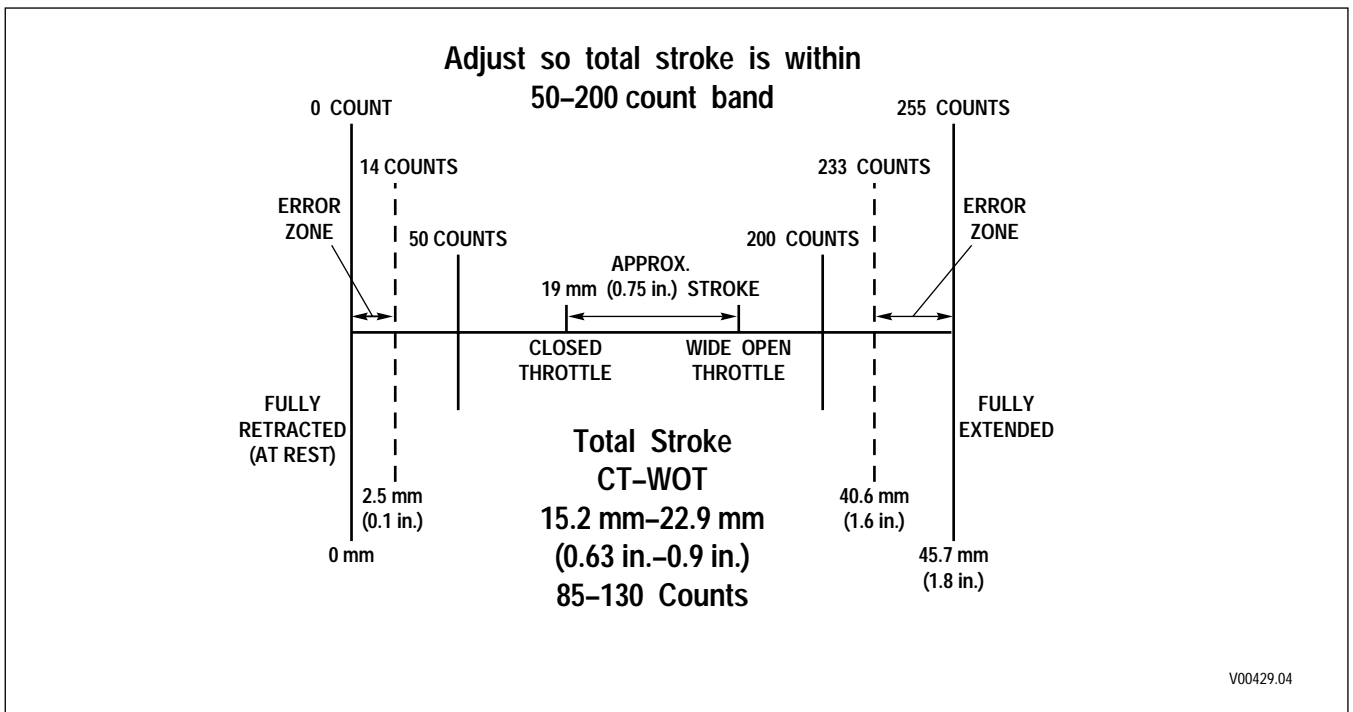
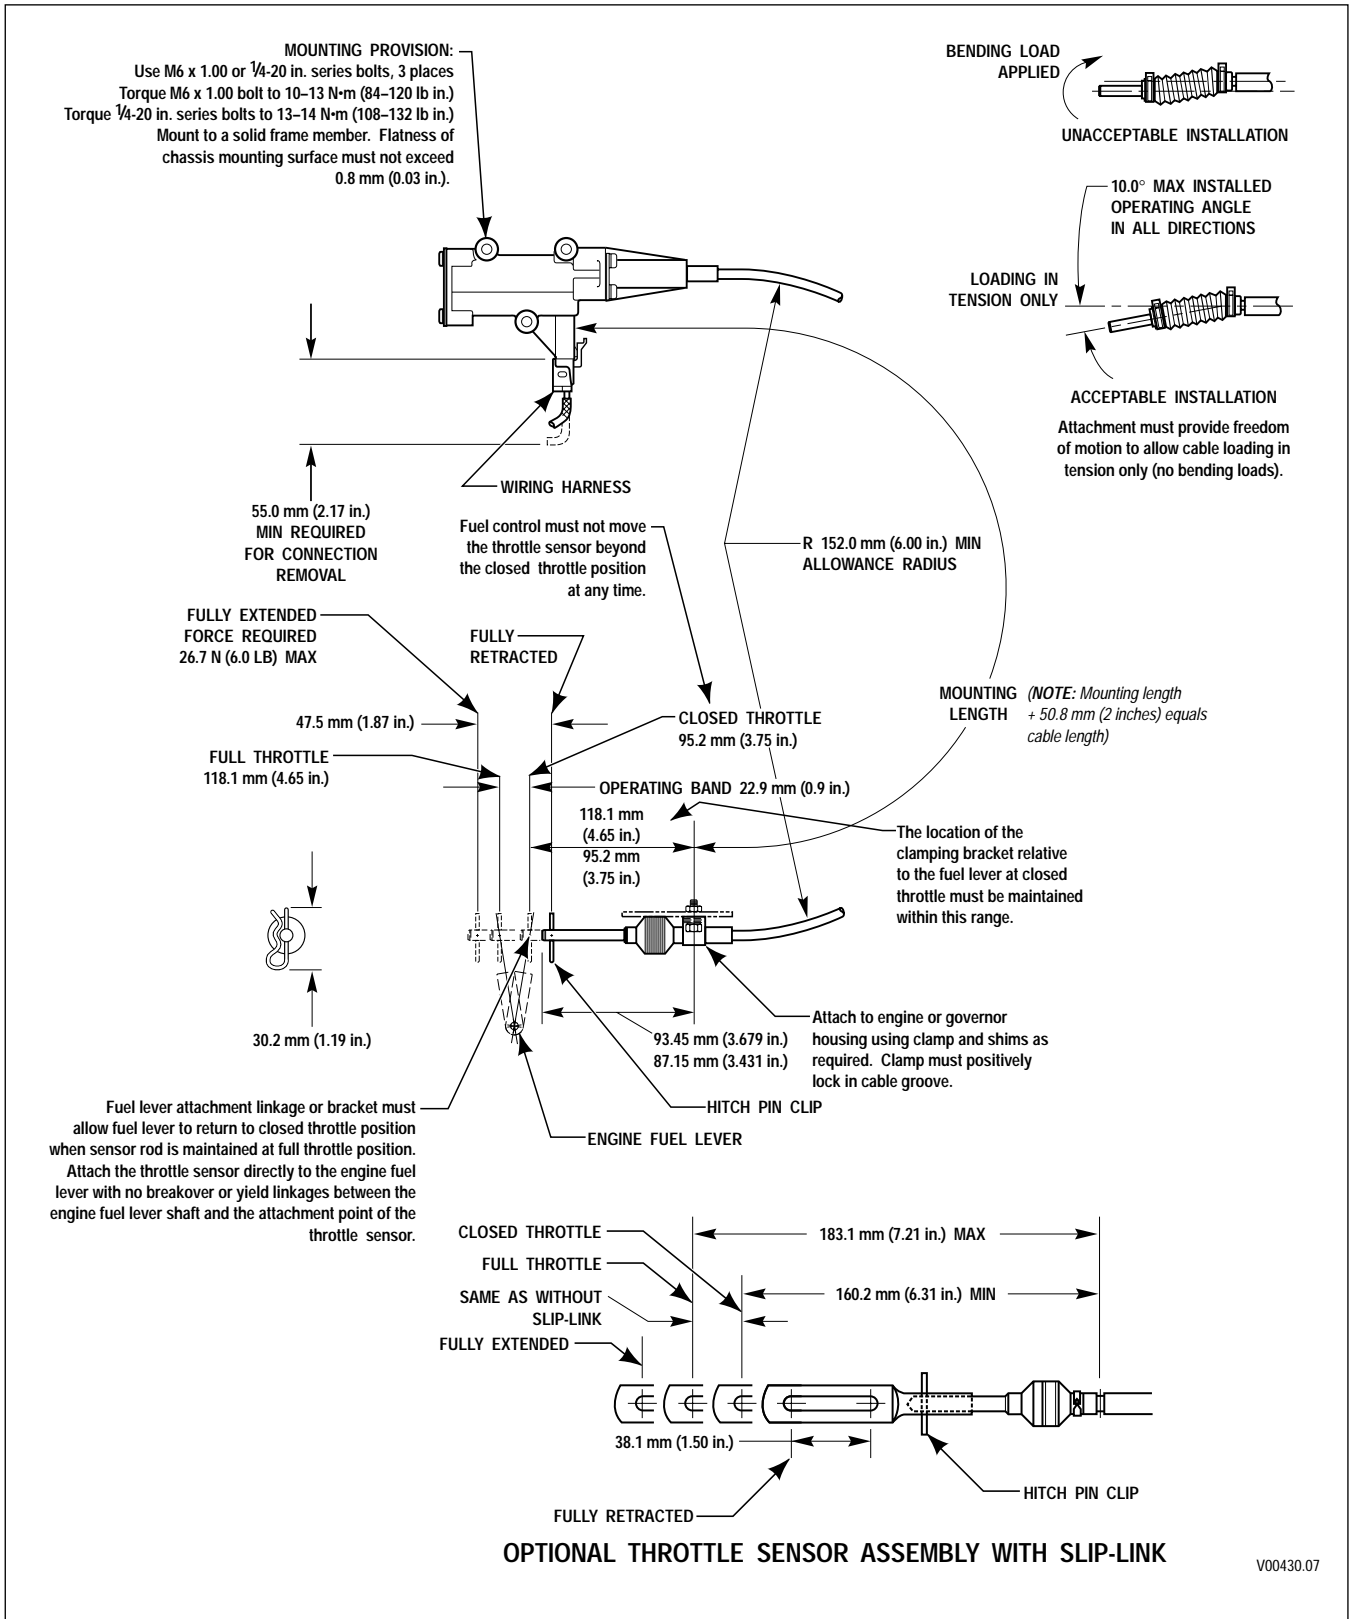

Figure F-2. Throttle Position Determination Diagram
Figure F-3. Throttle Position Sensor Adjustment
2. Each position gives a different voltage. The ECU then converts the voltage to counts. Each count corresponds to approximately .179 mm (.007 inch) of throttle sensor movement. Figure F-2 diagrams the counts and throttle movement relationship.
**NOTE:** After replacing or adjusting the throttle position sensor linkage, the technician should use the diagnostic tool to clear the throttle calibration. Go to the DDR selection menu and locate ACTION REQUESTS. Select RESET THROTTLE CALIBRATION and ENTER to set the 0 percent throttle counts. After the idle counts are established, the throttle should be moved to the Full position to establish the full or Wide Open Throttle (WOT) position (100 percent). The full throttle counts will be the same as the idle counts until the throttle is moved. The full throttle counts are set when maximum travel is reached so stopping before actual full throttle will set the 100 percent point artificially low. Refer to Figure F-2 for proper counts and percentage. Refer to Figure F-3 for illustration of throttle position adjustment.
When properly installed by the equipment manufacturer, the TPS should not require adjustment. Confirm that the throttle sensor is installed to manufacturer specifications before adjusting the throttle position sensor. The idle count should be 50 or higher and full throttle count 200 or lower. The TPS is self-calibrating meaning there is no optimum closed throttle or wide open throttle count value. As long as the counts are within the 50 to 200 range, the TPS is set properly. Total stroke of 85–130 counts must be maintained. Watch the movement of the throttle sensor as the controls move it through its full stroke. Be sure there is no misalignment or obstruction to smooth movement through the full stroke. Make certain the idle and full throttle positions are not in the error zones (refer to Figure F-2). The error zones occur when the idle position is less than 14 counts, or when the full throttle position is more than 233 counts. When idle or wide open throttle positions are in the error zones, Codes 21 12 and 21 23 occur, respectively. These codes cause the transmission to shift as if the throttle is fully depressed (100 percent throttle) affecting shift quality and causing decreased fuel efficiency. Code 21 XX may be caused by a short or open circuit in the chassis harness or by incorrect voltages. If this occurs, refer to Code 21 XX chart.